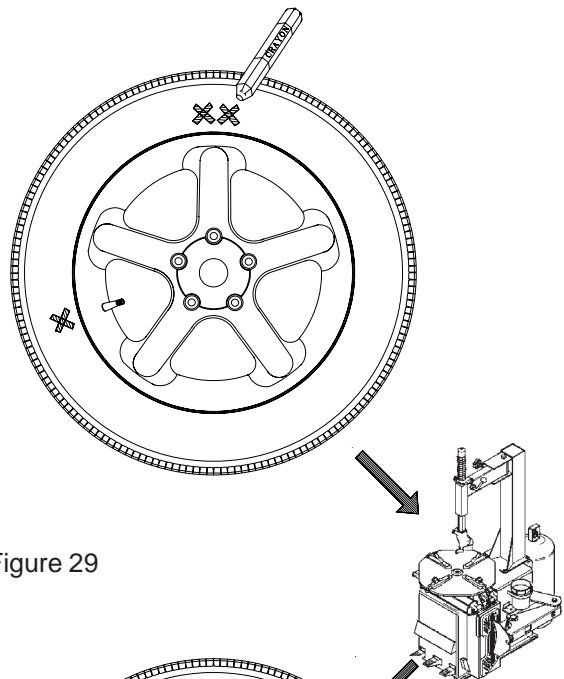

Figure 29
Due to a large amount of remaining imbalance the operator can continue match mount. Machine displays "**CrS**" "r" and "tur" "tir" alternatively. This instructs the operator to turn the wheel and make a double cross mark (XX) on the right side of the tire at 12 o'clock position when the right center position LED turns to green. See Figure 29.